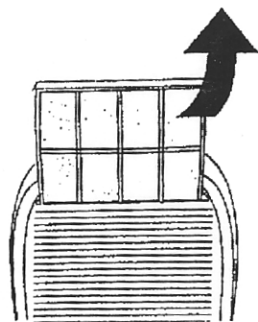

Fig. 6
- To remove the air filter, pull it out (Fig. 6).